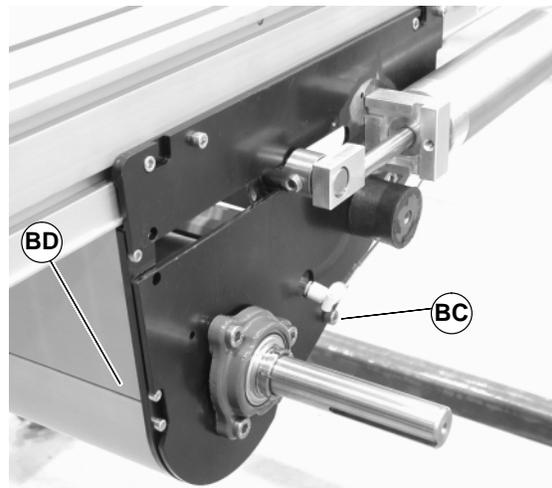
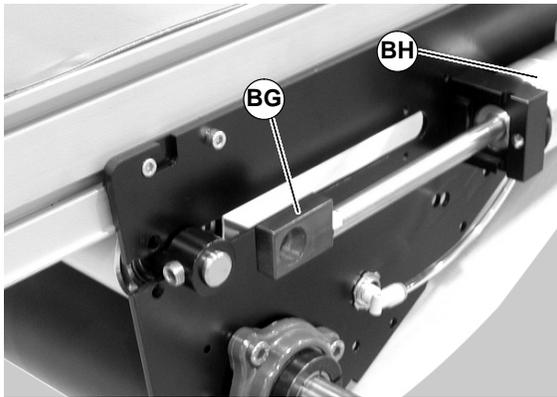

Figure 80
Figure 82
3. Temporarily support the tensioning roller guard (BD of figure 80). Remove screws (BC) on both sides of center drive and remove tensioning roller guard (BD of Figure 80 and 81).
5. Push shaft (BF of Figure 80) through block, slide block (BG of Figure 82) towards air cylinder (BH).